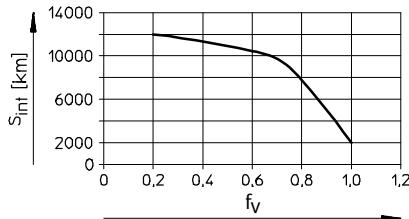

Fig. 8
- If **one** of these factors applies, halve the lubrication interval S_{int} (→ Fig. 8).
- Calculate the load comparison factor f_V with the help of the formula for combined loads (→ 11 Technical data) and read the lubrication interval S_{int} (→ Fig. 8).